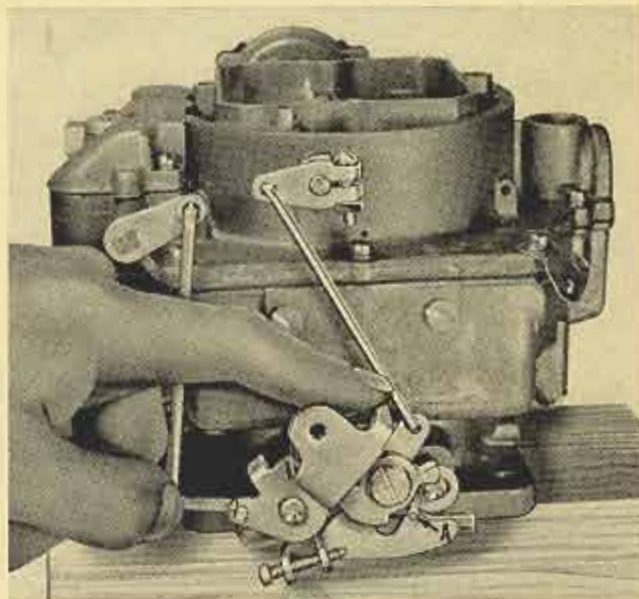

Fig. 17
8. Secondary Throttle Lock-out Adjustment: The secondary lock-out, "A," Fig. 17, is provided to prevent the possibility of opening the secondary throttle valves with the choke closed or partially closed with a cold engine.
A. With choke valve held tightly closed, open primary throttle valves all the way. Tang "A," Fig. 17, on secondary throttle arm should engage in notch on lock-out lever preventing secondary throttle shaft movement.